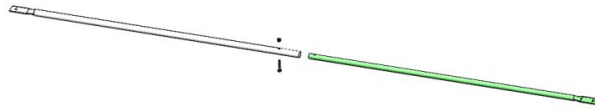

Figure 11
Step 11: Insert the one lower cross brace(TS305.04) into the one upper cross brace(TS305.03) by using one 1/4"-20×1-1/2" bolt (48240B) and one 1/4" lock nut(48752B). Repeat this step for other three cross braces. Leave these hand tight for now (**Figure 11**).